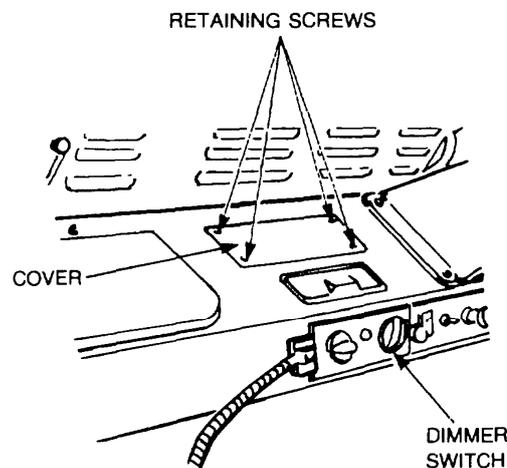

Figure 197 Switch Top Cover Removal
- b. Remove the four screws securing the top cover to the dash panel (Figure 197).
- b.** Remove the four screws securing the top cover to the dash panel (Figure 197).